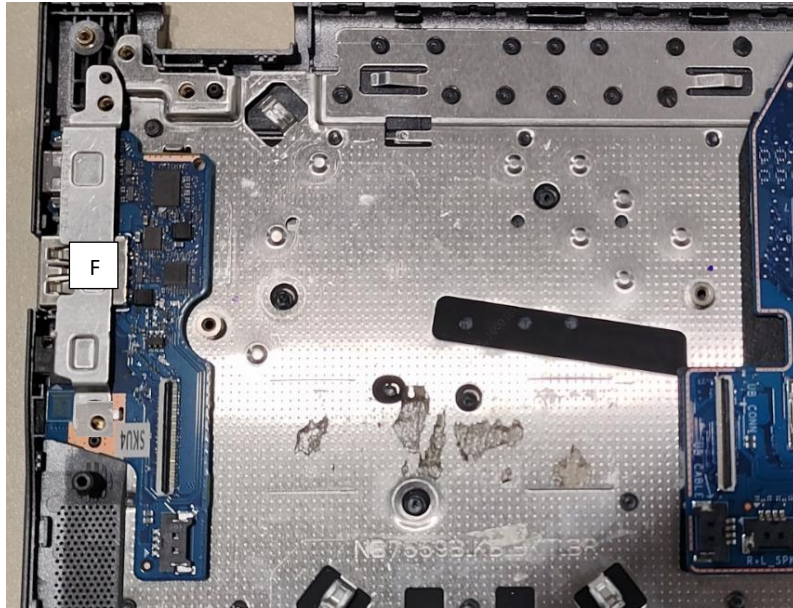

Figure 3-24. USB Board Removal
2. Release the I/O bracket (F) from the I/O port slot and guide pins on the top assembly (Figure 3-24). Then remove the I/O bracket.